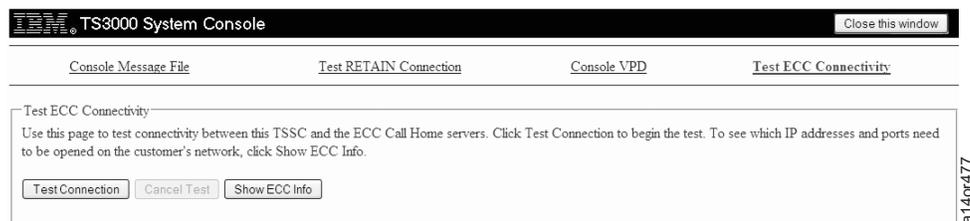

Figure 134. Test ECC Connectivity Screen
- Click **Console Status**. Click the **Test ECC Connectivity** link at the top of the page. You will see the screen shown in Figure 134.